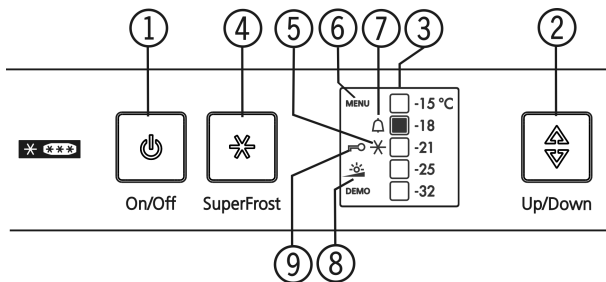

Fig. 3
- The SuperFrost symbol Fig. 3 (5) flashes together with the temperature display.